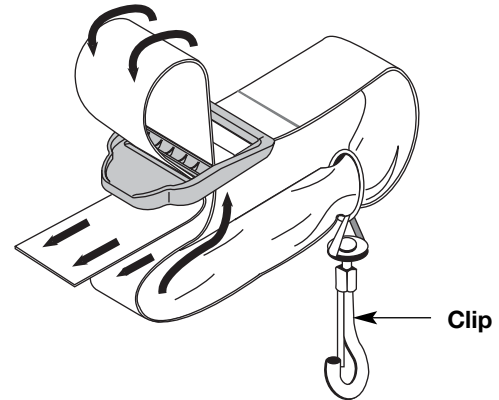

Fig. 6
- Pull the strap over the cross bar and down through the slot in the buckle (Fig.6).